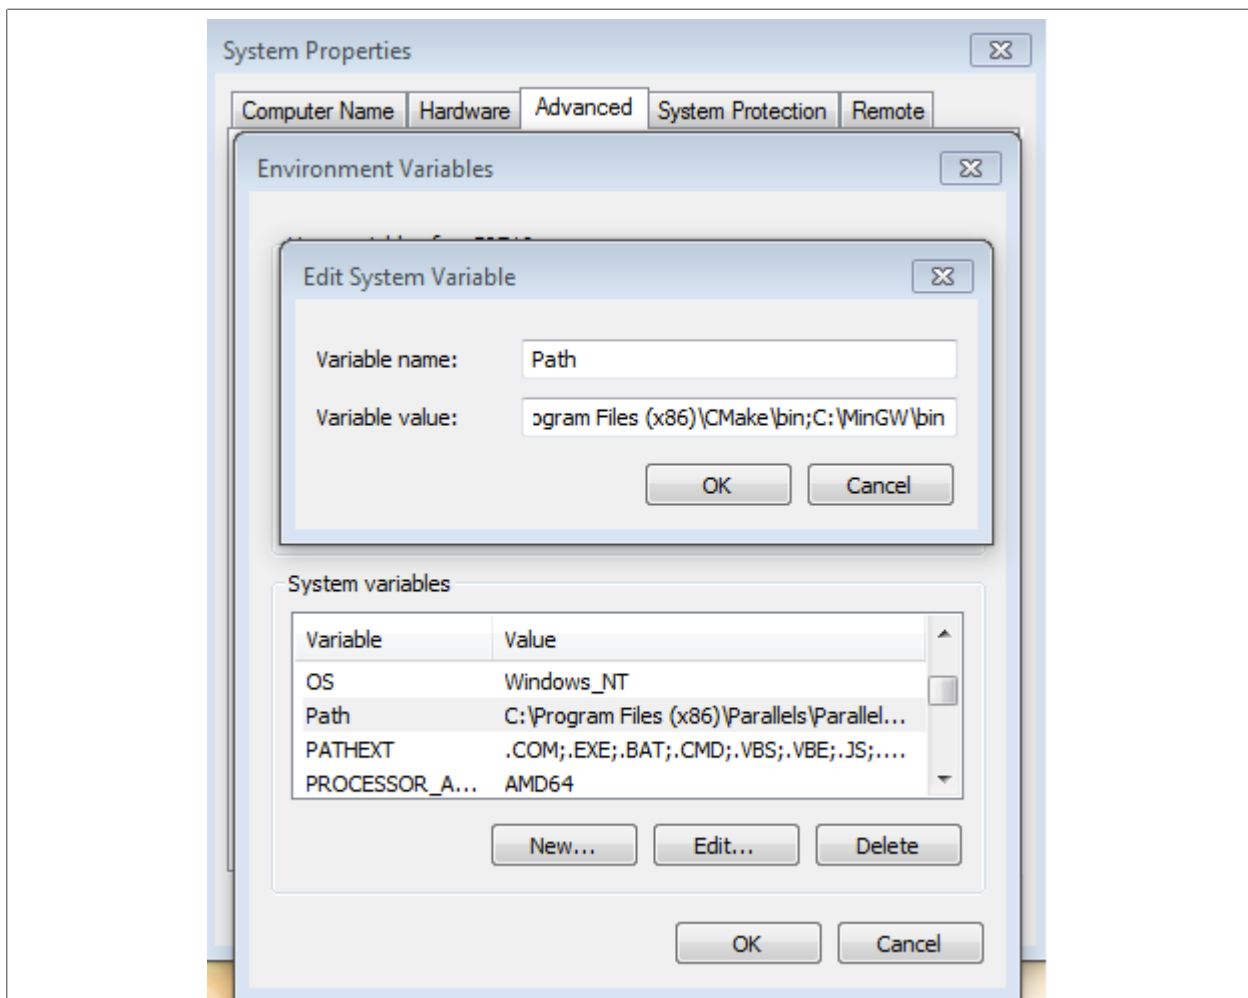

Figure 28. Add Path to systems environment
5. Add the appropriate item to the Windows operating system path environment variable. It can be found under **Control Panel->System and Security->System->Advanced System Settings** in the **Environment Variables...** section. The path is: <mingw_install_dir>\bin. Assuming the default installation path, C:\MinGW, an example is as shown in Figure 28. If the path is not set correctly, the toolchain does not work.